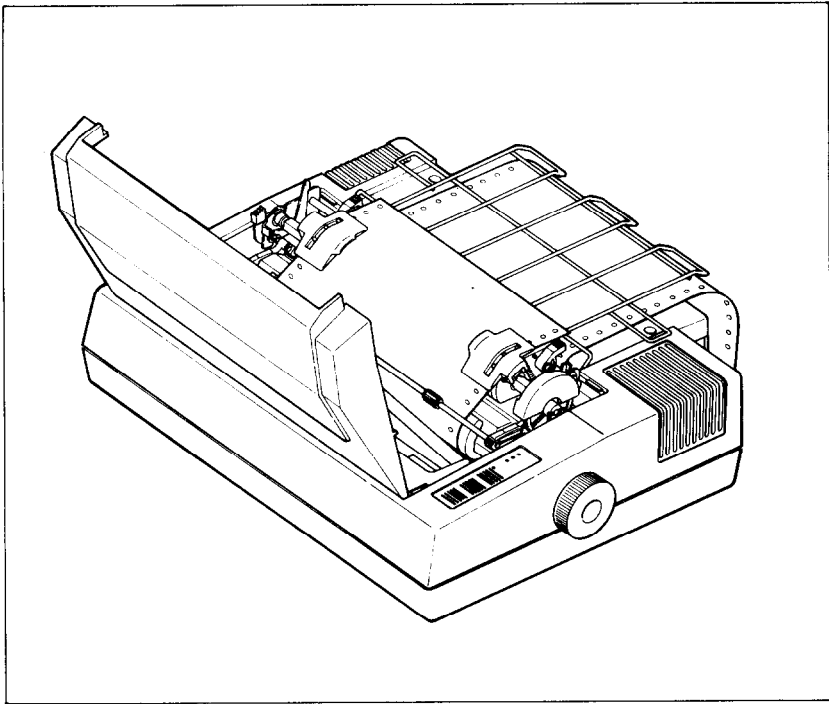

Figure 2-8. SD-10/15 ready to run with sprocket-feed paper.
11. When holes fit snugly over the nubby teeth in both sprockets, close the tractor covers and snap the clamp levers back into their locked position (Figure 2-8).